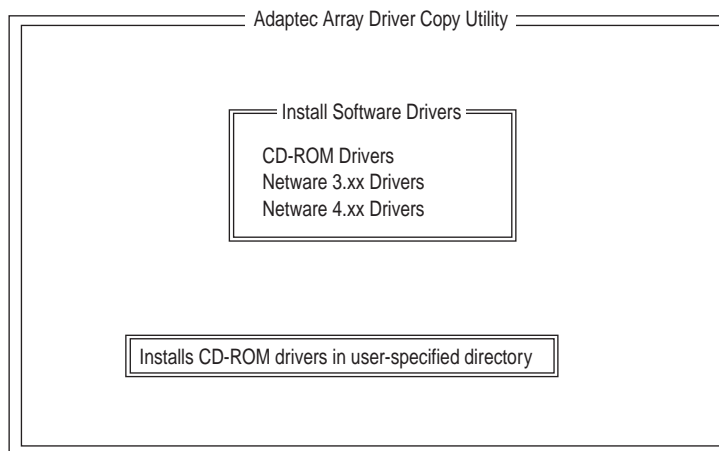

Figure 6-18. The Install Software Drivers Menu
- 3 When the Adaptec Array Driver Copy Utility menu appears, as shown in Figure 6-18, select one of the NetWare options, depending on which version of NetWare you are installing on the computer.